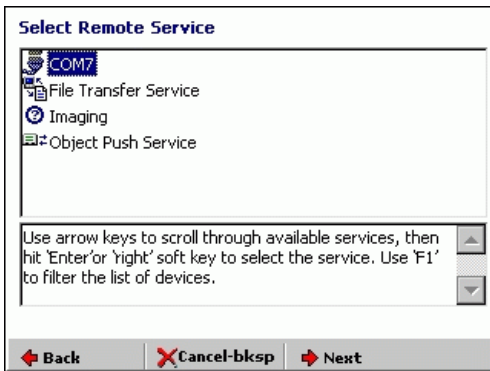

Figure 2-113 *New Connection Wizard, Select Remote Service Screen*
4. Select *Next* in Figure 2-113. A *Connection Summary* window displays.